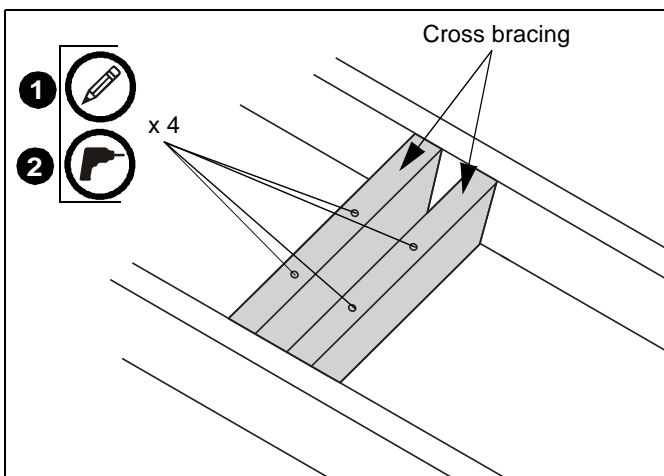

Figure 1
- Using base (A) as a template, mark locations of four pilot holes (See Figure 1). Ensure the marks are in the center of wood joists.
- Drill 7/32" diameter pilot holes into wood stud cross bracing. (See Figure 1) Ensure pilot holes are straight.